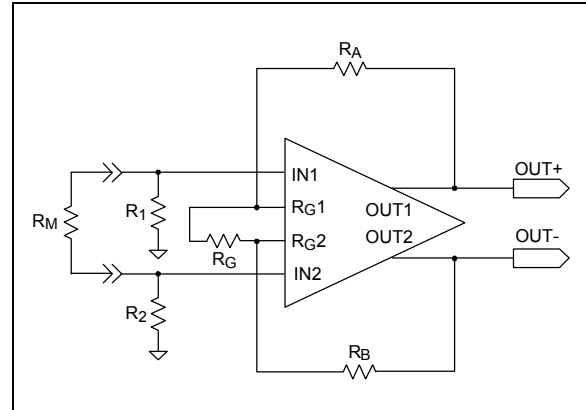
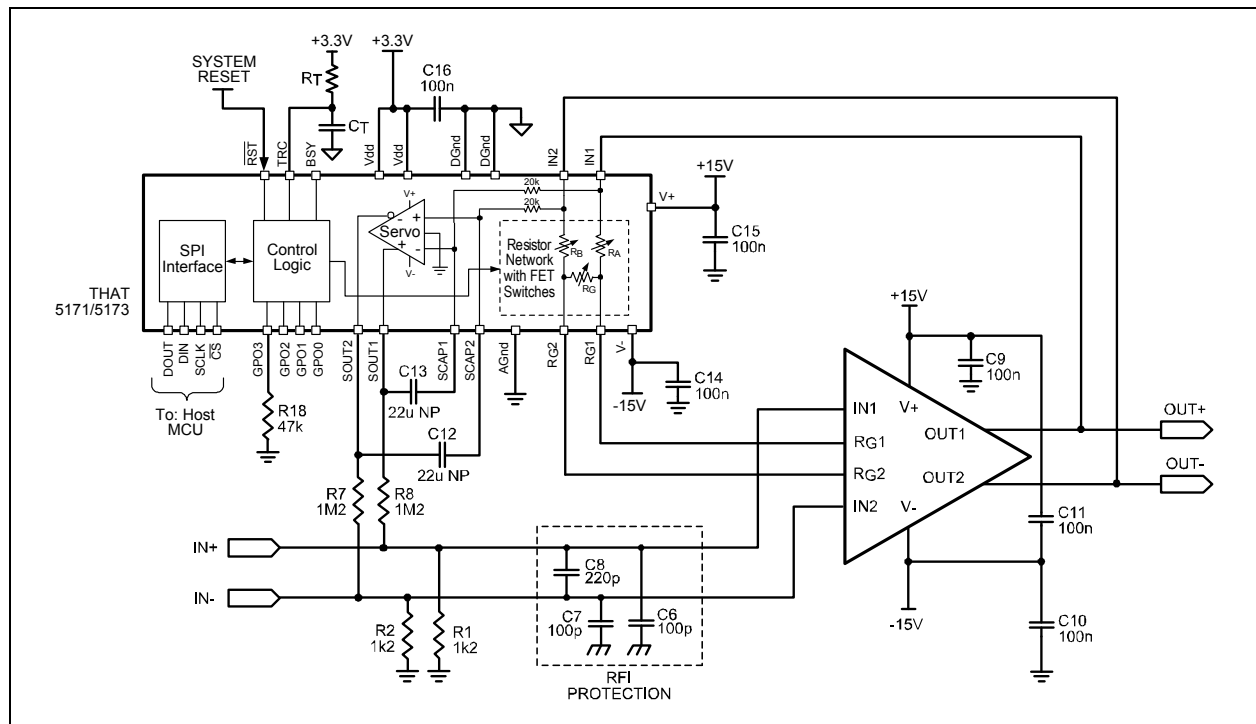

Figure 15. Simple THAT1583 Amplifier Circuit
Figure 20. Basic Application Circuit with THAT 5171/5173 Digital Controller
5. Unless otherwise noted, feedback resistors = 2.21 kΩ; C_L = 10 pF. Circuit is as shown in Figure 15.
Referring to Figure 15, the THAT1583's differential voltage gain (G) is set by the feedback resistors (R_A and R_B) and R_G , as shown in the following equation. The amplifier's minimum gain is unity (0 dB), which occurs with infinite R_G . The feedback resistors should nominally be equal, though tight tolerance matching is not required.
The noise performance of a preamplifier based on the 1583 is determined as the sum of several noise sources. These are as follows (refer to Figure 15 for component reference designators):
In the circuit of Figure 15, the amplifier's differential gain (G) extends to dc. As a result, the differential dc offset at the outputs will vary with gain. This can produce audible "thumps" when gain is varied quickly, and can produce significant and undesirable output dc offset at maximum gain. Any such offset will reduce the output voltage swing.
Figure 20 shows a THAT5171 or 5173 Digital Controller connected to the 1583. The controller varies R_A , R_B and R_G (from Figure 15) to produce the desired gain based on the gain command provided via the SPI control interface. The feedback network